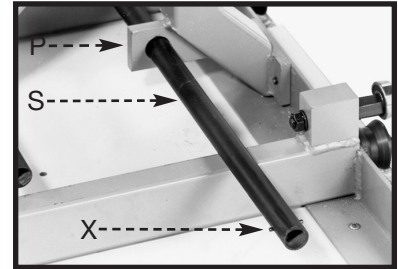

Fig. 32
7. Insert the roll pin (X) in the end of the handle rod (S) Fig. 32.